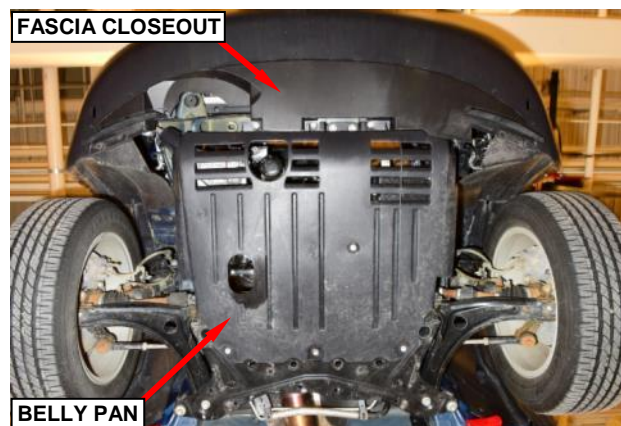

Figure 10 – Underbody Closeout Panels
30. Remove and save the push pins and bolts securing the belly pan to the vehicle (Figure 10).
31. Remove and save the belly pan (Figure 10).
32. Remove and save the push pins and screws securing the lower fascia panel to the vehicle (Figure 10).
33. Remove and save the lower fascia panel (Figure 10).